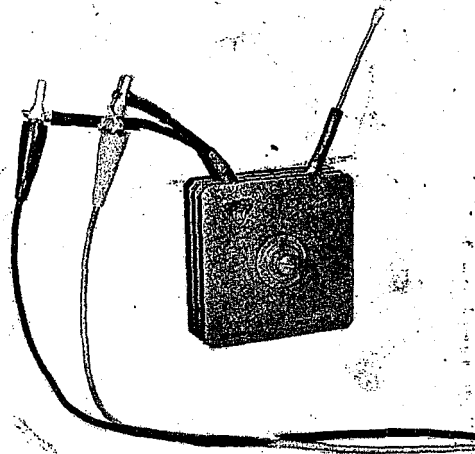

Figure 29
8. Remove analyzer test leads and connect to the two alternator leads or lead terminals on rectifier. Figure 29.